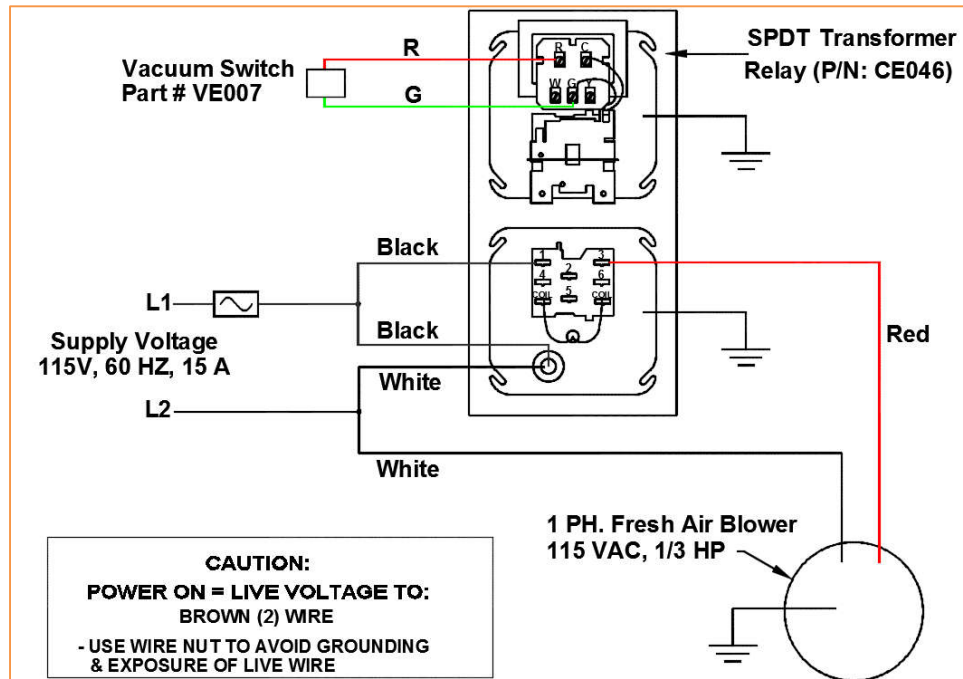

Figure 42: Fresh Air Blower Connection Diagram
- a. **Relays (Two)** - 2 Thermostats - Hardwired control of Vacuum Pump and Burner Power depending on individual Thermostat status change (Figure 42).
1. Mount the Vacuum Switch and make the connections to the Blower as required. (See Figure 42 below for details)